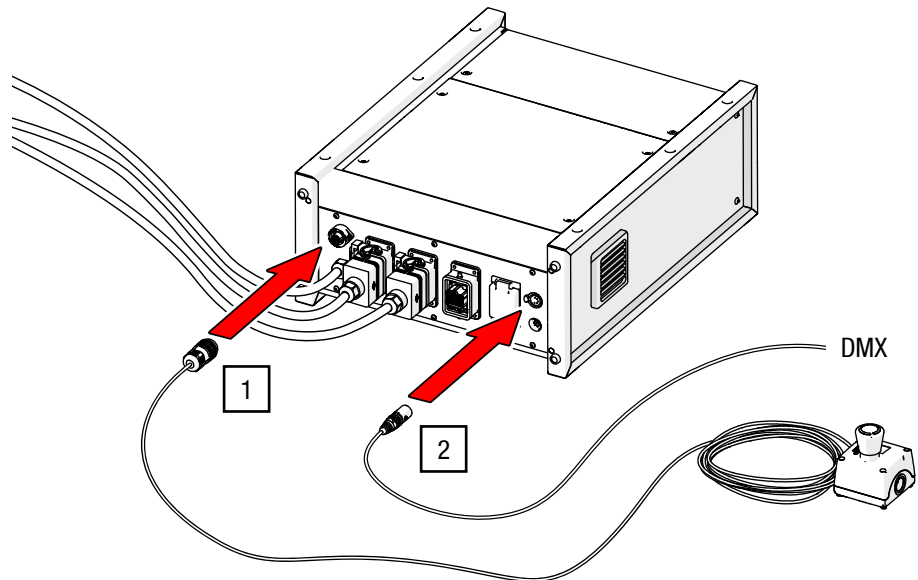

Fig. 25: G-FRAME 54 – Connecting DMX
1. Connect the plug from the emergency stop button to the emergency stop socket on the back of the control unit (see Fig. 25).
2. Connect the DMX input cable, which comes from an external DMX-control unit, to the *DMX IN* socket with the 5-pin XLR plug (5/ Fig. 6) on the rear of the control unit (see Fig. 25).